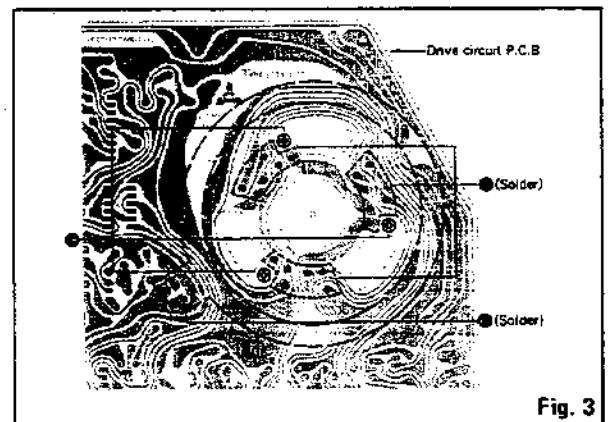

Fig. 3
6. Disconnect 18 soldered parts (F) of the stater coil and 4 soldered parts (G) of the F.G detector coil as show in Fig. 3.
7. Remove 3 screws (H) of the stater frame ass'y as shown in Fig. 3.